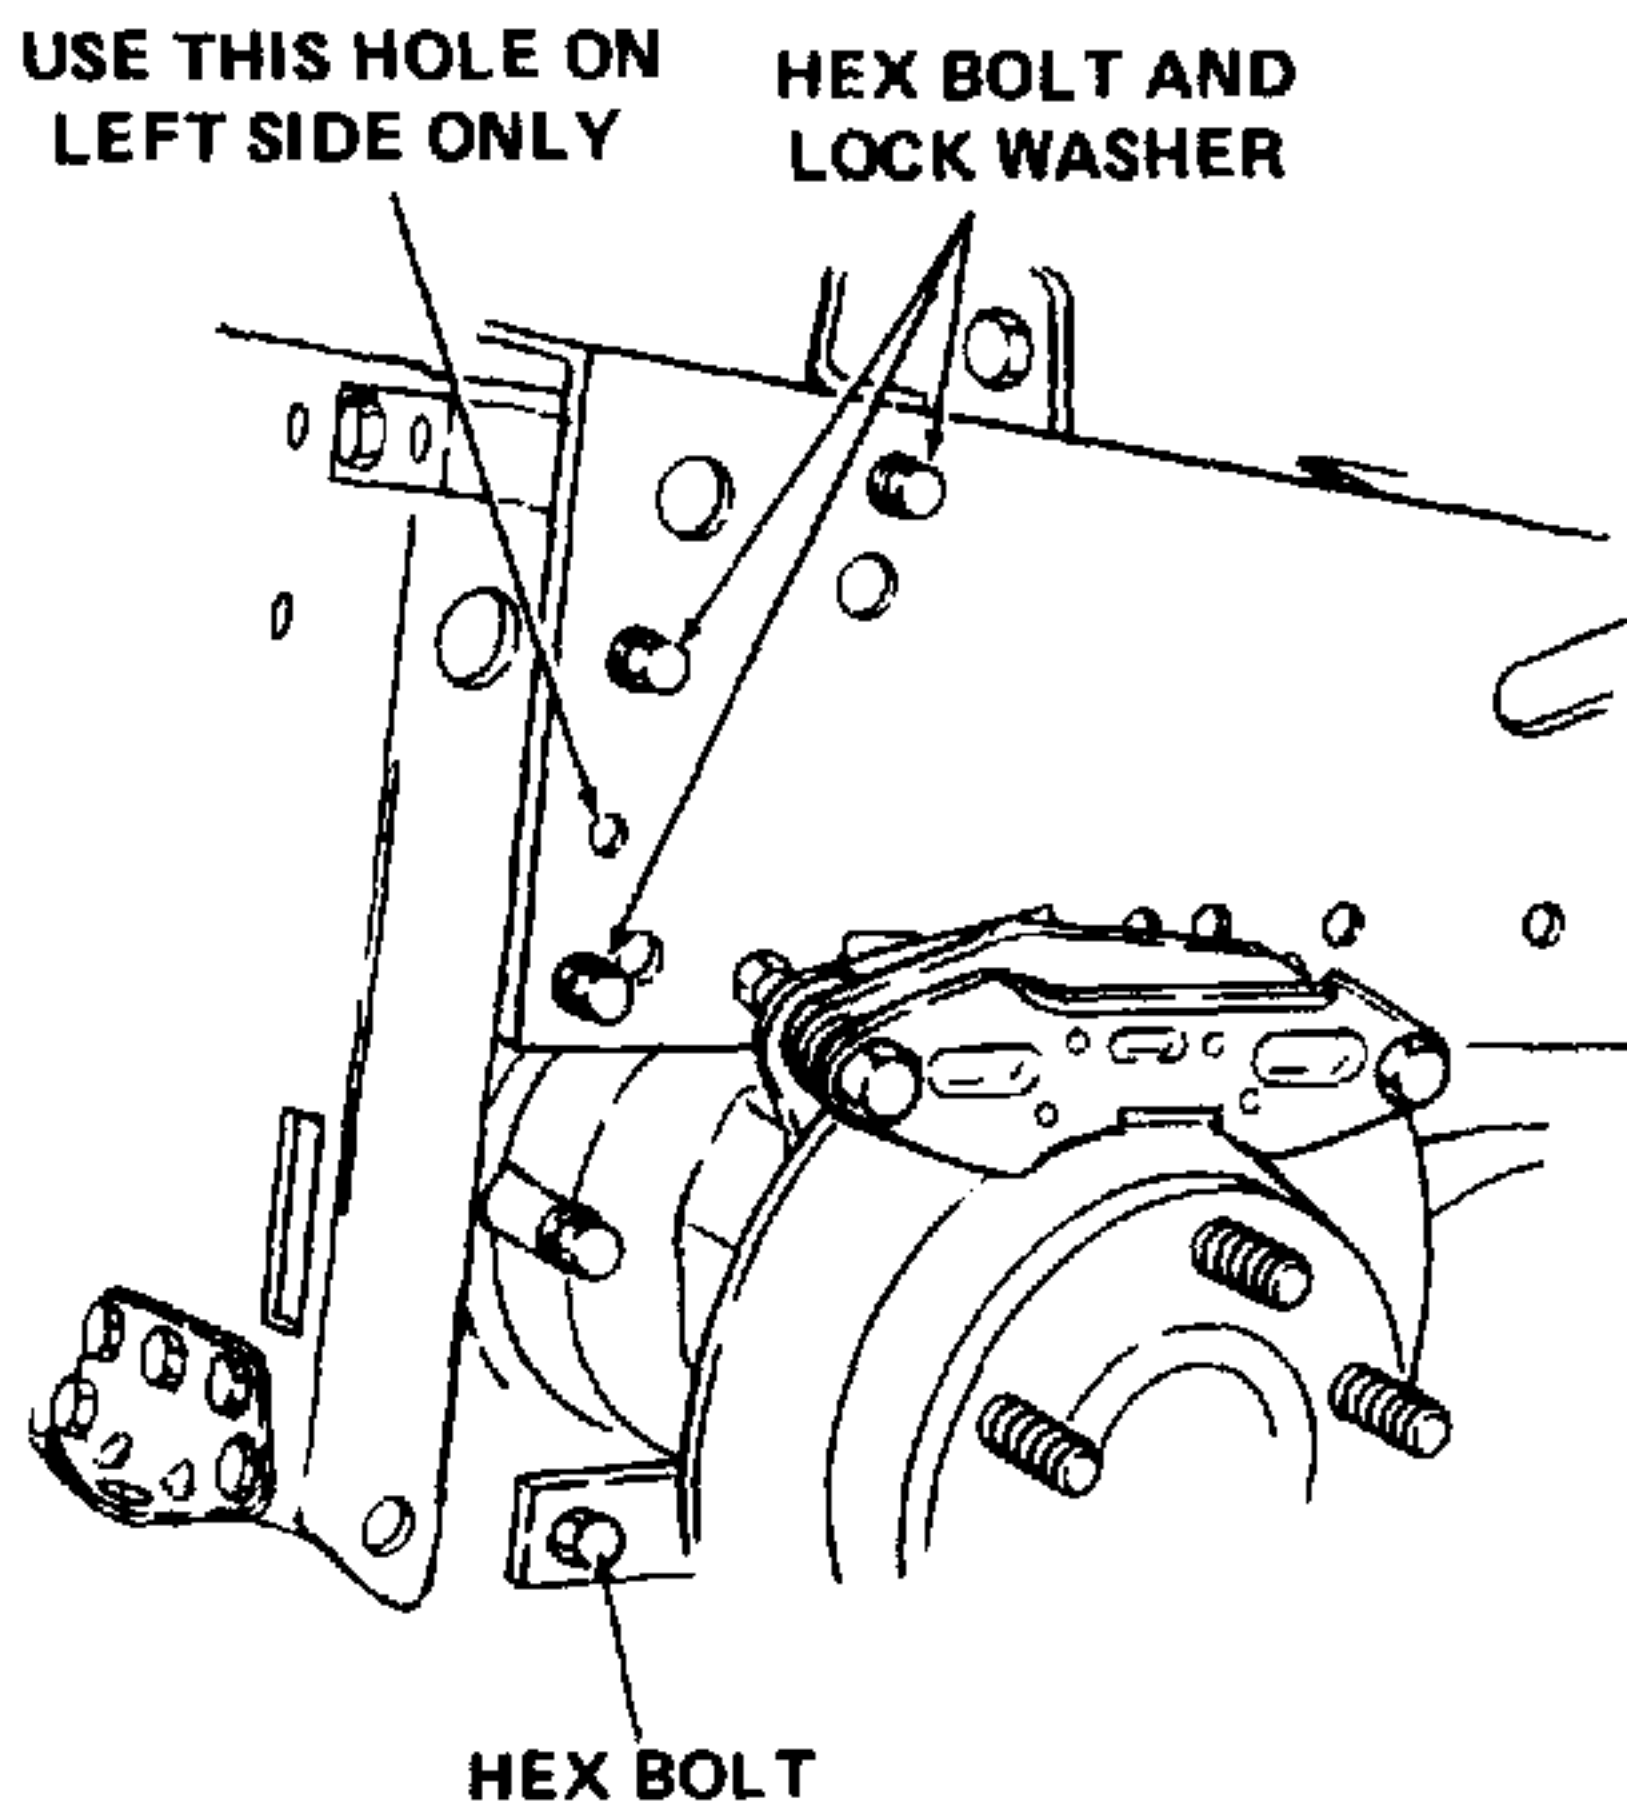

Figure 7-52. Installing 3-Point Hitch Plate.
3. Install 3-point hitch plate (1). Refer to Figure 7-52.